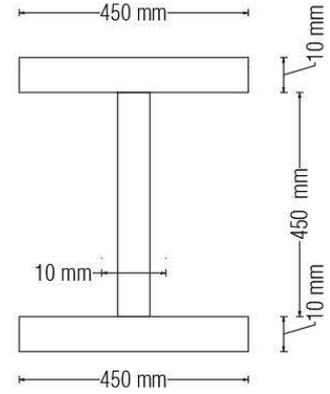

Figure 2
- (c) Compute the moment of inertia about XX and YY axis for the “I” beam section given in figure 2. Both XX and YY axis are passing through its centroid. ૦૭